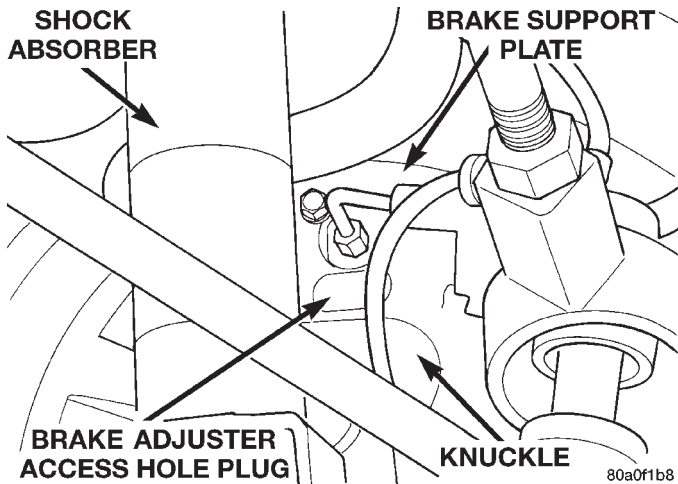

Fig. 169 Brake Adjuster Access Hole Plug
(1) Raise vehicle using a frame contact type hoist or supported as required using jack stands. See moisting in the Lubrication And Maintenance group of this service manual for the required hoisting or jacking procedure to be used for this vehicle.
(2) Remove the rubber plug (Fig. 169) from the brake adjuster access hole in the brake support plate.
(5) Insert a thin screwdriver or a piece of welding rod through the adjuster access hole. Carefully push the adjuster actuating lever out of engagement with the adjuster star wheel. While holding the adjuster actuating lever away from the star wheel insert a second screwdriver in access hole and engage it with the star wheel on the adjuster. Back off the adjuster star wheel until no drag is present when rotating the wheel.
(6) Repeat the above adjustment procedure at the other rear wheel.
(7) Apply and release the park brake lever one time after the rear brake shoes are adjusted. This will correctly adjust the tension of the park brake cables.
(8) Install the rubber plugs into the adjuster access holes in the brake support plates (Fig. 169).